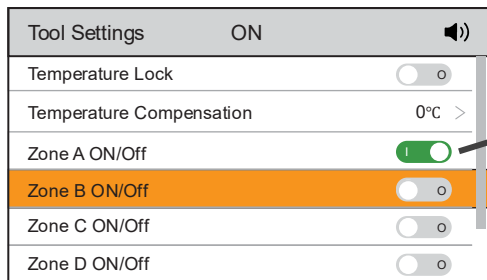

Figure 1-1
- ◆ Enter the Tool Settings screen (Figure 1-1), and select the Heating Zone to be turned on.